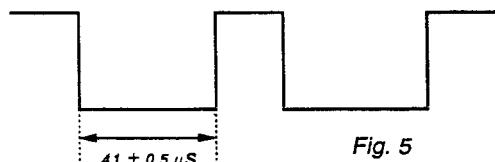

Fig. 5
- 5) Connect the oscilloscope probe to IC503 Pin 7, then adjust [H DELAY] so that the waveform is as in Fig. 5.